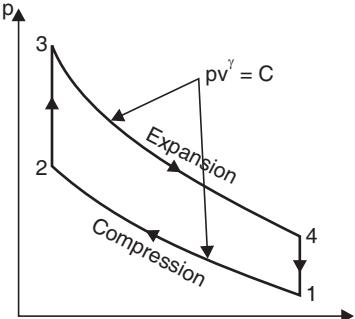

Fig. 4.6
**Solution.** Refer to Fig. 4.6.